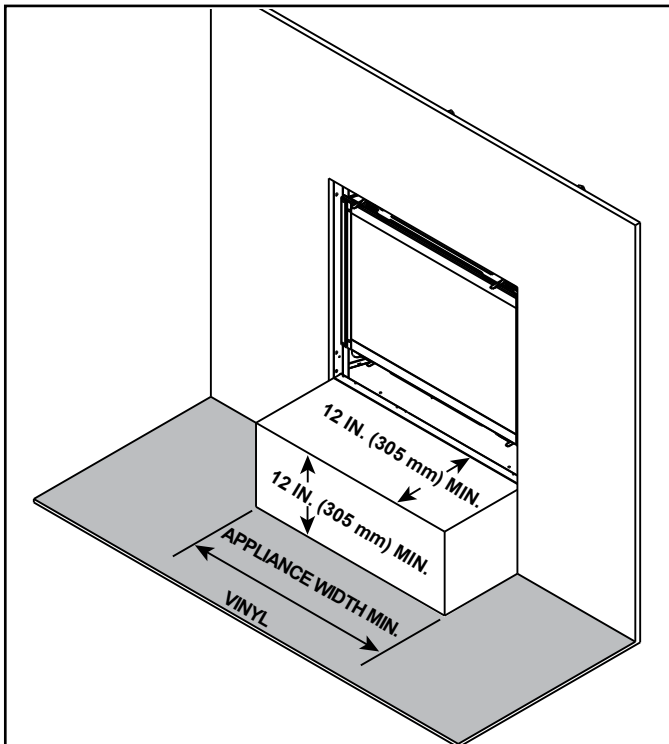

Figure 8.8 Vinyl Flooring Recommendations
- Combustible flooring may be located in front of the appliance. See Figure 8.8 for vinyl flooring recommendation.
Vinyl flooring is sensitive to heat. To avoid damage to the vinyl flooring, a 12 inch minimum x 12 inch minimum hearth is recommended when using vinyl flooring up to the wall. See Figure 8.8. If no hearth is used, it is recommended to provide a minimum of 24 inches of clearance in front of the appliance to the vinyl flooring OR the bottom of the appliance should be raised a minimum of 24 inches off of the floor to allow the vinyl flooring to be installed up to the wall.